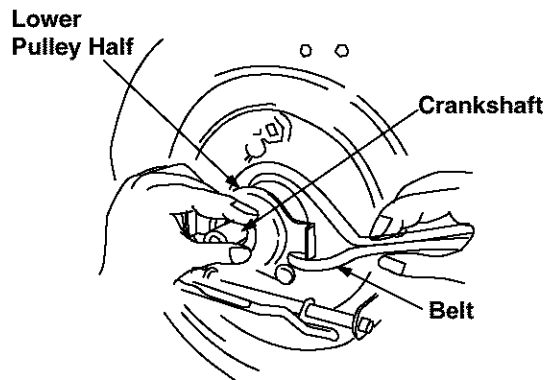

Figure 25
- Lift off the lower pulley assembly and remove the old belt from around the crankshaft. See Figure 25.